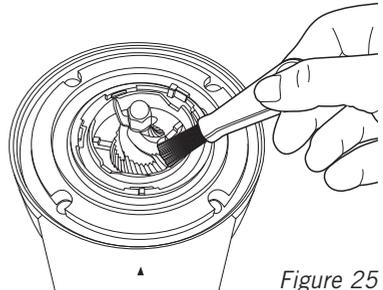

Figure 25
6. Clean the bottom burr using the burr-cleaning brush, see figure 25.